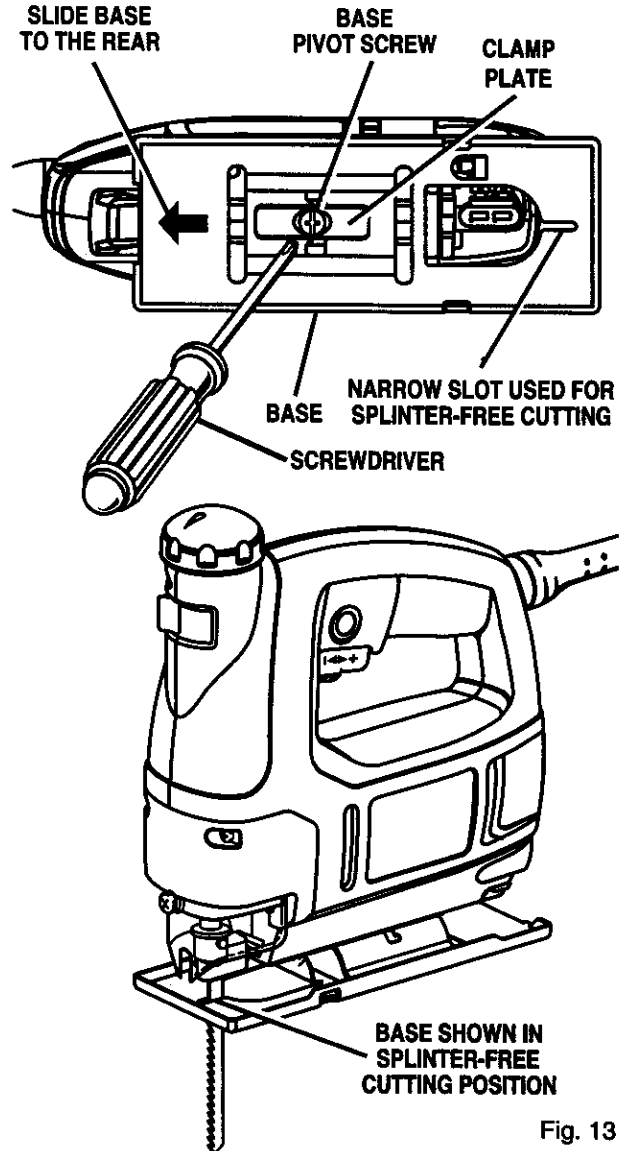

Fig. 13
See Figure 13.
- Using a screwdriver, loosen base pivot screw and slide base to the rear. See Figure 13.